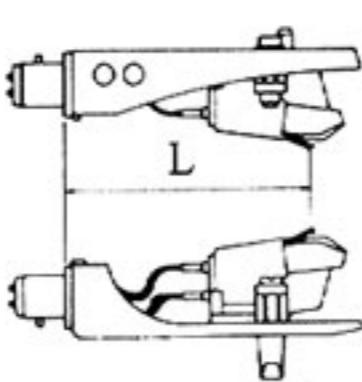

Fig.1.
1. Remove the cartridge/headshell assembly from the tonearm of your turntable and compare the distance "L" between the old and new cartridges by positioning both units as illustrated in Fig. 1.